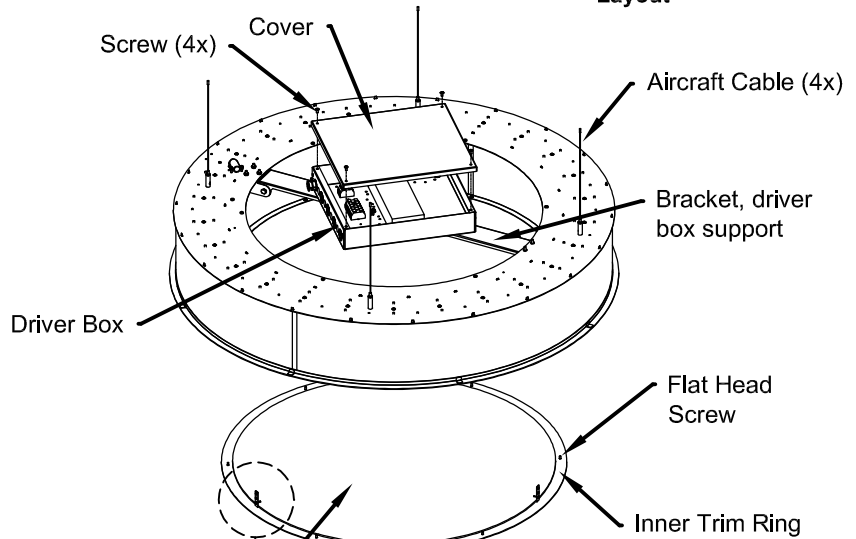
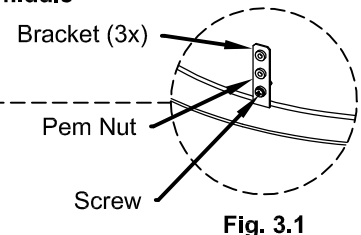
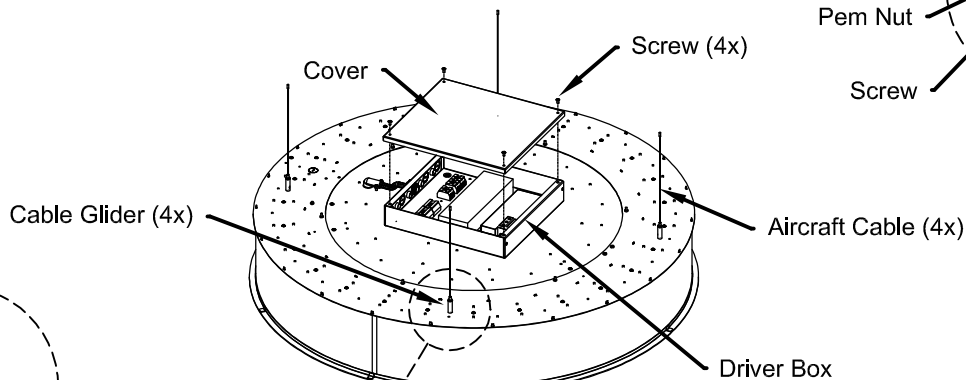
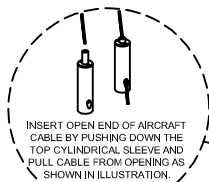

Fig. 3
Fig. 3.1
Fig.4
Fig. 4.1
- Remove the inner trim ring. Fig.3
- Remove the screws located on brackets of the inner trim ring, place the round ceiling plate between three brackets on the inner trim ring and secure it with screws using proper pem nut located on the bracket depends on the thickness of the ceiling plate. Fig.3 and Fig. 3.1
3. Insert loose ends of four aircraft cables (previously attached to the ceiling sub-structure, step 2) into the cable gliders located on the top surface of the fixture. Fig.3, Fig.4 and Fig. 4.1
4. Lift the fixture using cable gliders. To release the grip lock, press down on the top of the mechanism. If desired, clip the excess aircraft cables after the fixture is level. Fig. 4.1
5. Remove the cover from the driver box, remove appropriate round knock-out(s) on the driver box and connect flexible conduit to the driver box making proper electrical connections. Re-install the cover. Fig.3 and Fig.4
- 6 Insert loose ends of four aircraft cables (previously attached to the ceiling sub-structure, step 2) into the cable gliders located on the top surface of the fixture. Fig.3, Fig.4 and Fig. 4.1
8. Lift the fixture using cable gliders through the middle opening in the fixture. To release the grip lock, press down on the top of the mechanism. If desired, clip the excess aircraft cables after the fixture is level. Fig.8 and Fig.4.1
9. Remove the cover from the driver box, remove appropriate round knock-out(s) on the driver box and connect flexible conduit to it making proper electrical connections. Re-install the cover. Fig.3
14. Insert loose ends of four aircraft cables (previously attached to the ceiling sub-structure, step 2) into the cable gliders located on the top surface of the fixture. Fig.4 and Fig. 4.1
15. Remove the cover from the driver box, remove appropriate round knock-out(s) on the driver box and connect flexible conduit to it making proper electrical connections. Re-install the cover. Fig.4
16. Lift the fixture using cable gliders through the middle opening in the fixture. To release the grip lock, press down on the top of the mechanism. If desired, clip the excess aircraft cables after the fixture is level. Fig.4.1